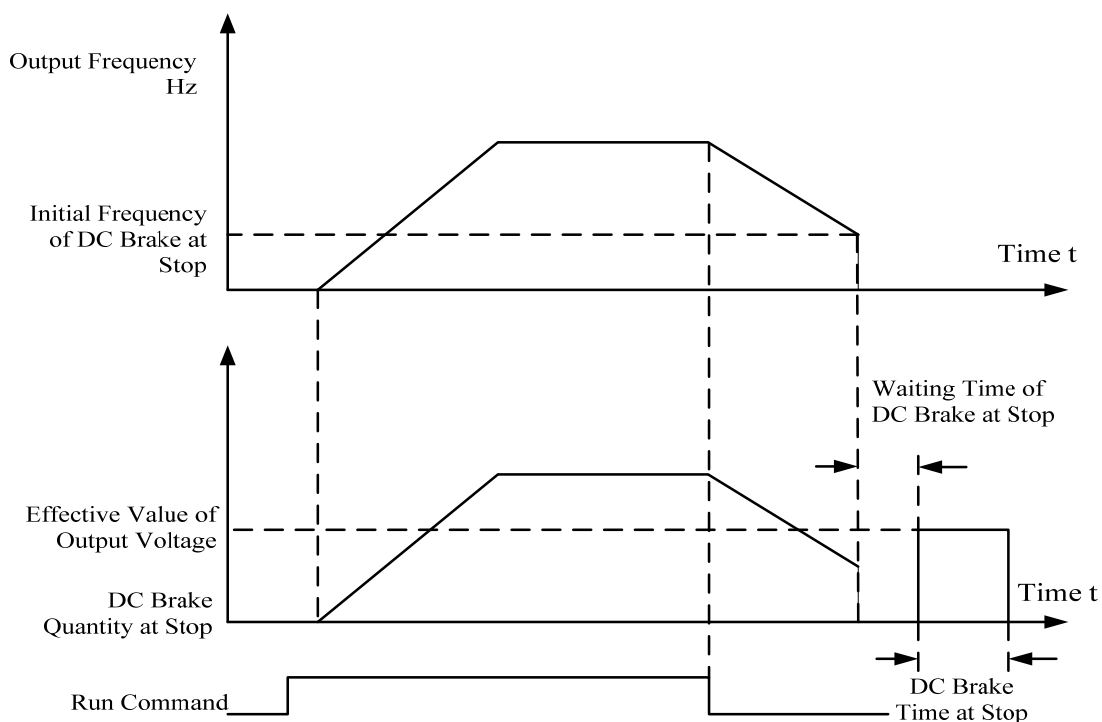

Figure 6-14 DC Brake Process at Stop
- F04.09** Set DC brake time at stop. If F04.09=0.00, the DC brake is disabled at stop. If there is a DC brake signal of external terminal at stop, then the DC brake time takes the bigger between the active time of the terminal and the setting time of F04.09. See Figure 6-14 for DC brake process at stop.